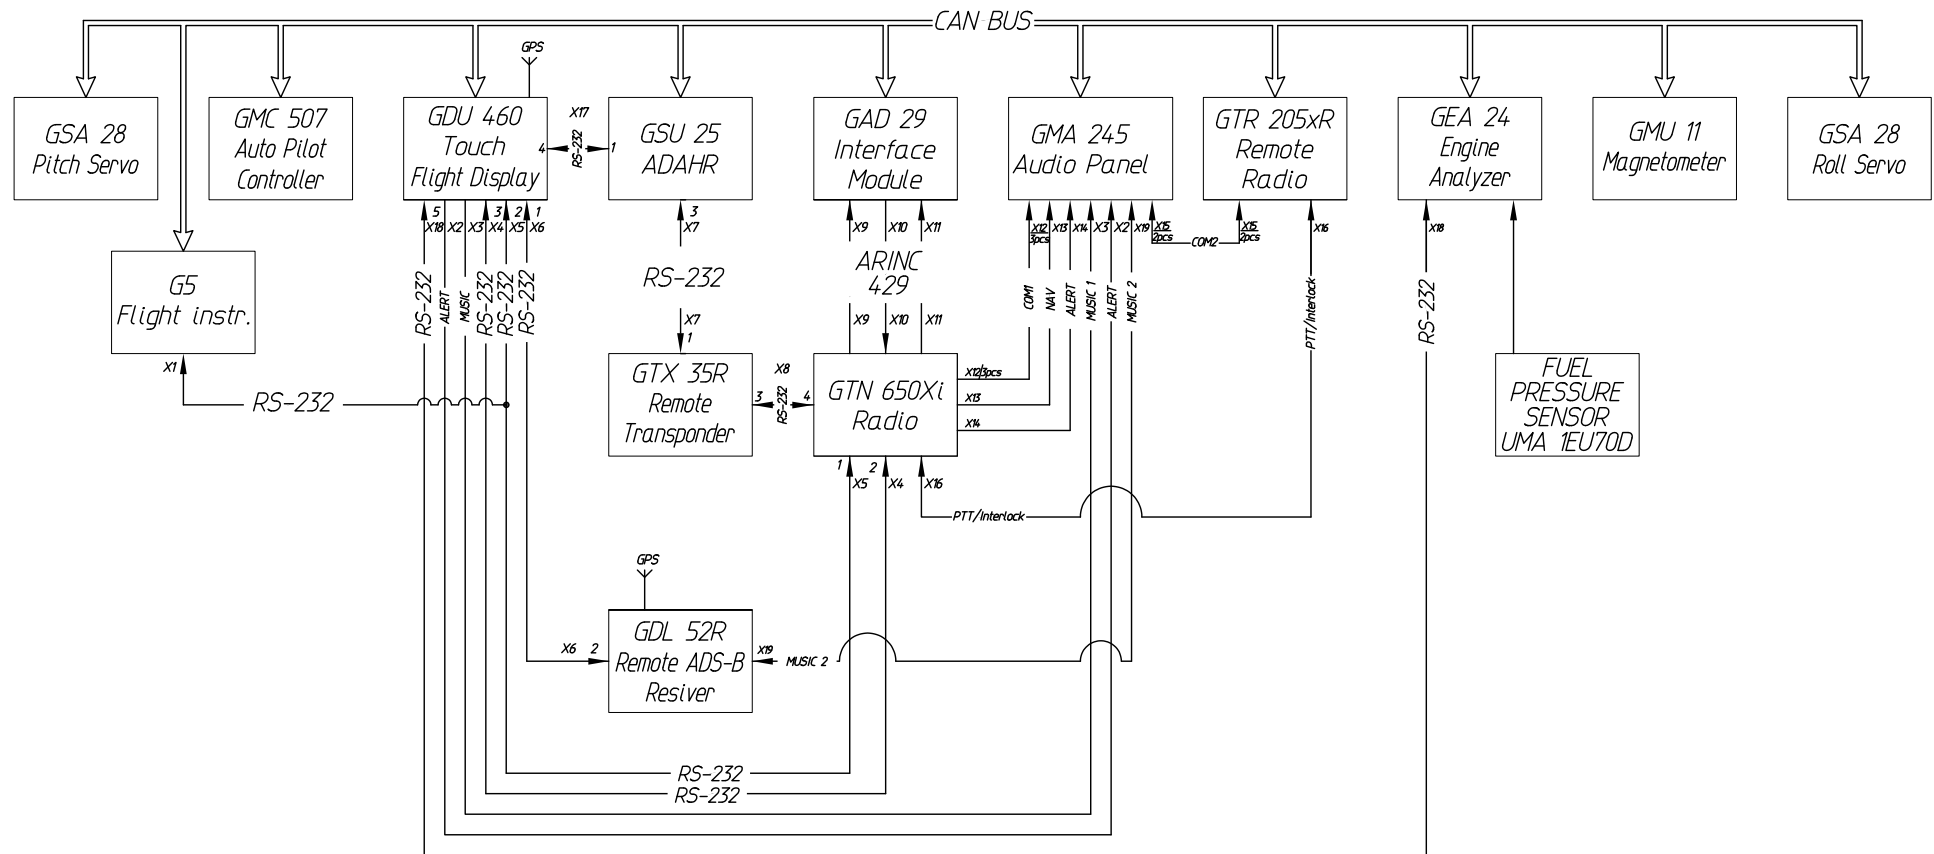

Fig. 14. Block diagram for installation of Garmin G3X system
4. Disconnect the full and static pressure lines at their joints (4, see **Fig.14** at page **39**).